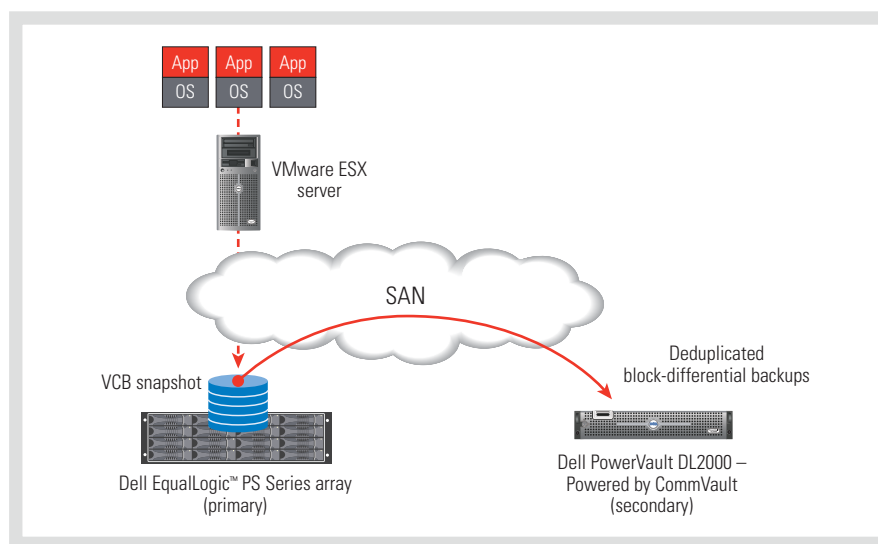

Figure 2. The CommVault Simpana Virtual Infrastructure Agent helps provide seamless backups in virtualized environments
CommVault Simpana 8.0 also introduces the Virtual Infrastructure Agent for VMware® and Microsoft® Hyper-V™ virtualization platforms. In VMware environments, this agent is deployed on a proxy server instead of the virtual machine (VM), and is designed to protect a virtually unlimited number of VMs on an ESX server. This agent can also integrate seamlessly with VMware Consolidated Backup (VCB) to back up VM data over a storage area network (SAN) without requiring scripting (see Figure 2).